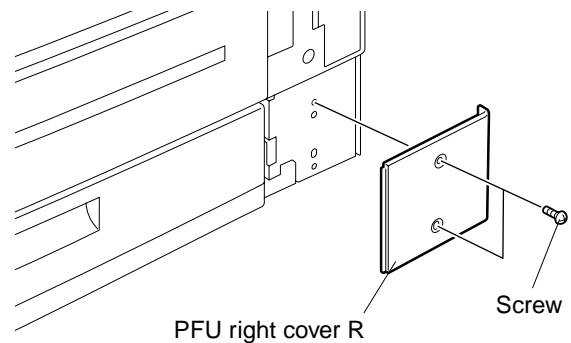

Fig. 6-3
1. Detach PFU right cover R. (See Fig. 6-3)